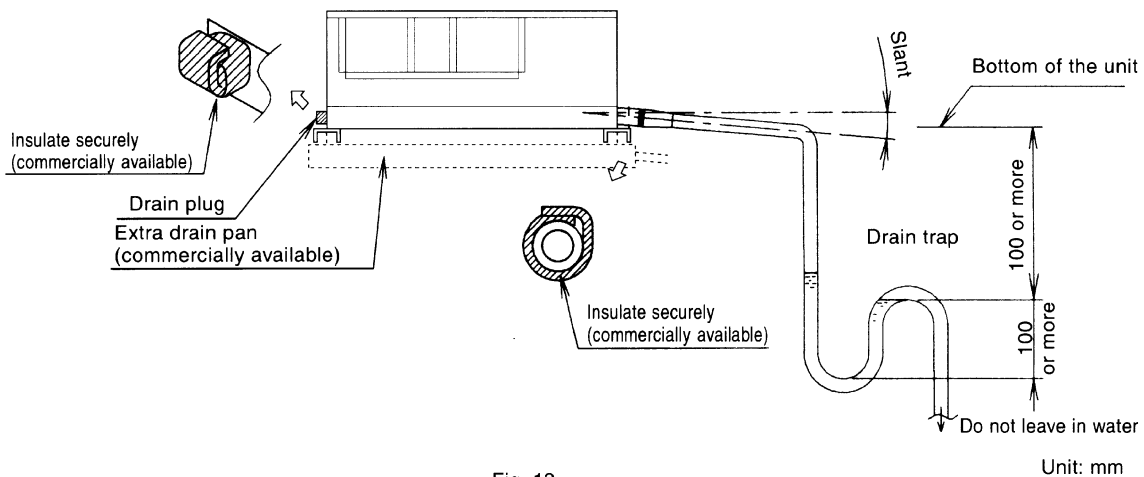

Fig. 13
- Assemble the unit as shown in Fig.13.
- For best results, try to keep the piping as short as possible. Slant the piping at an angle to improve flow (the drain pipe provided with the indoor unit has a PS 1B internal thread). See Fig.13.
- After closing the drain pipe on the opposite side of the unit, completely wrap the drain pipes with insulation (see Fig.13).